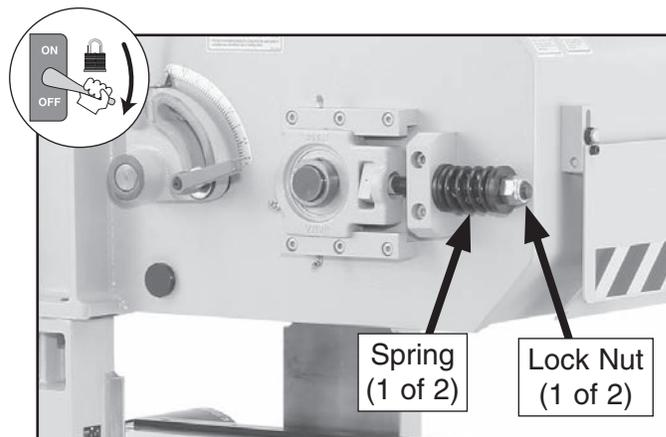

Figure 132. Location of feed track tensioning components.
3. Turn lock nut (see **Figure 132**) on one side of machine to increase or decrease tension.